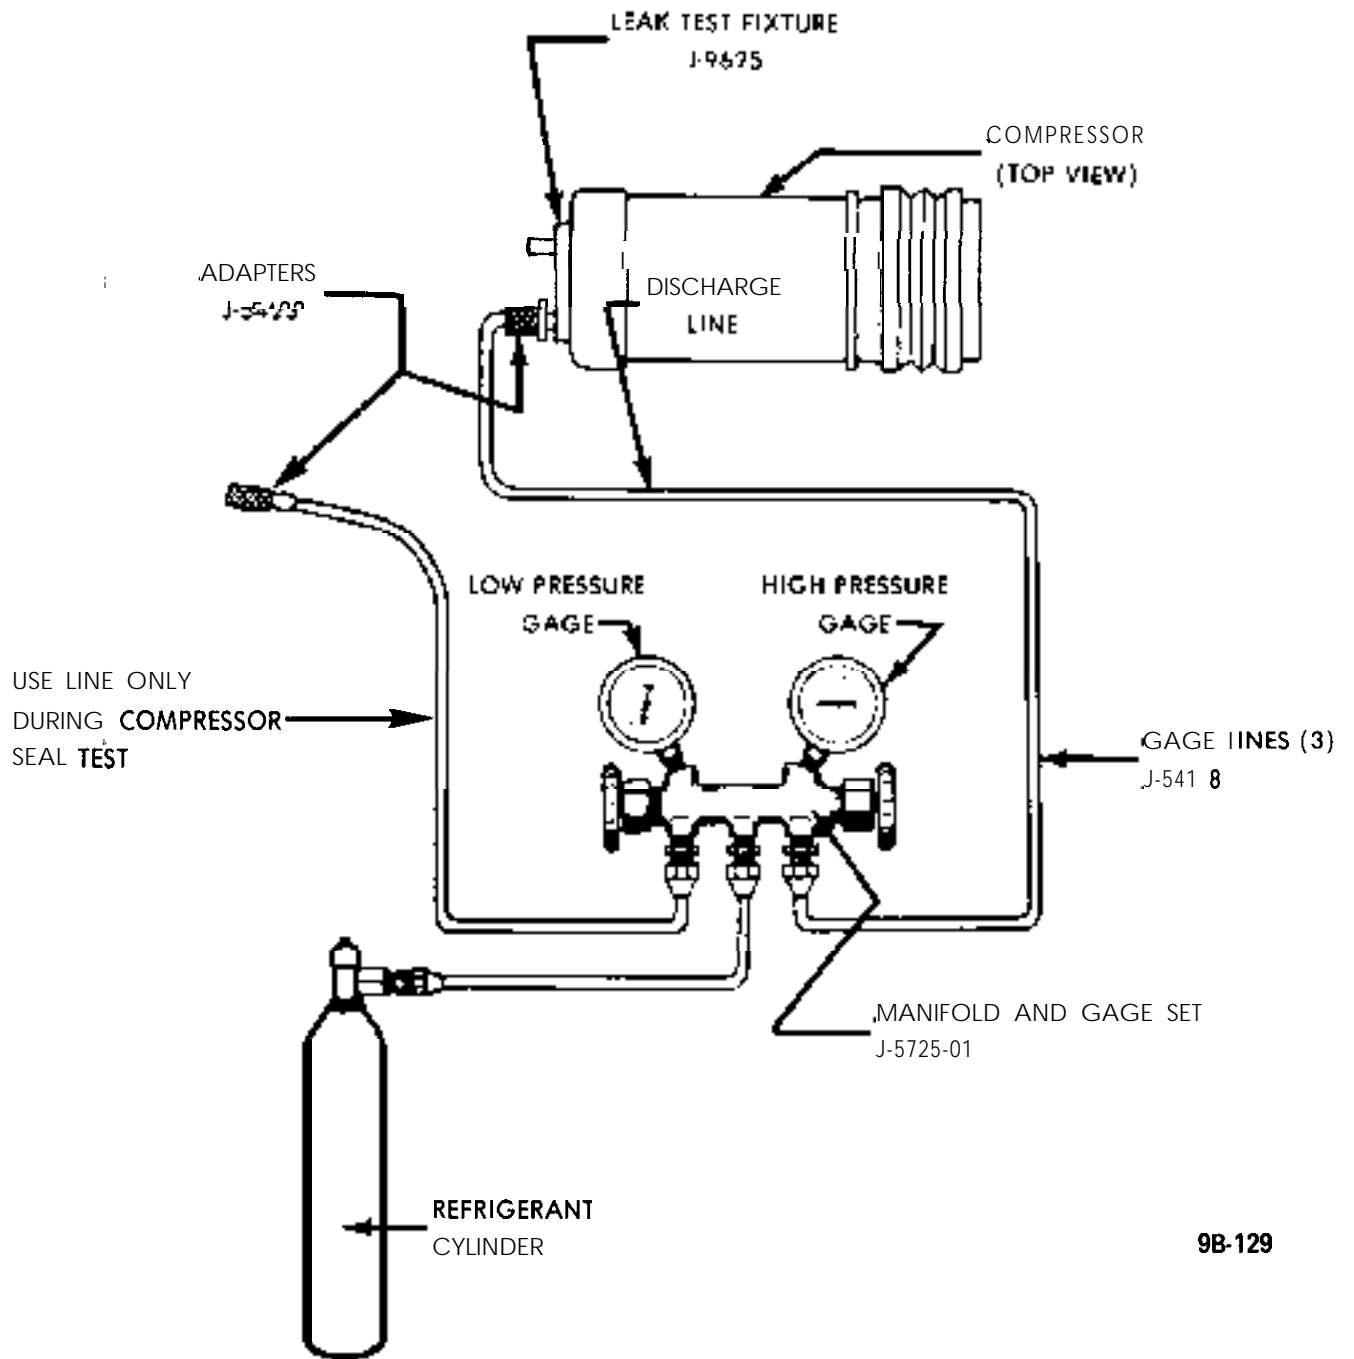

Figure 9B-160 Compressor Infernal Leak Test
5. Complete reassembly by installing clutch drive plate onto hub of front head. See Figure 9B-164 disassembled view of compressor.